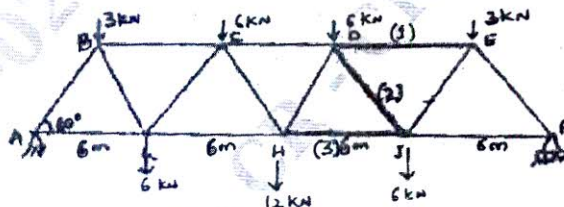

Fig.Q1(c)
- c. Determine the forces in the numbered members of the loaded truss shown in Fig.Q1(c) using method of sections. (04 Marks)